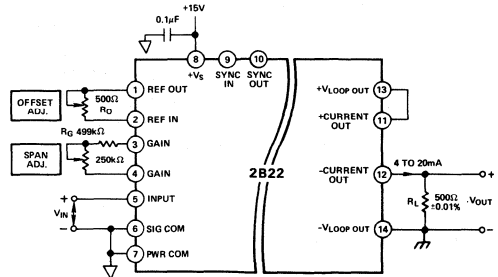

Figure 3. Optional Span and Offset Adjustment
Model 2B22 is factory calibrated for a 0 to +10V input range ( $G = 1.6\text{mA/V}$ ). As shipped, the 2B22 meets its listed specifications without use of any external trim potentiometers. Additional trim adjustment capability, to reduce span and offset errors to  $\pm 0.05\%$  max, is easily provided as shown in Figure 3. The span and offset trim pots are adjusted while monitoring the voltage drop across a precision (or known) load resistor. The following trim procedure is recommended:
1. Connect model 2B22 as shown in Figure 3.